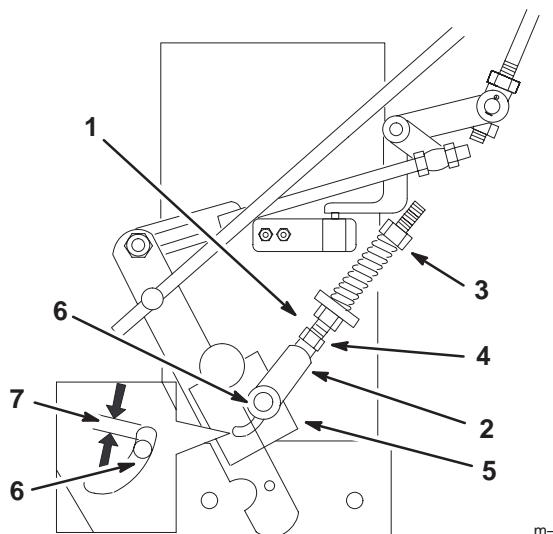

Figure 45
3. Loosen the nut against the yoke (Fig. 45).
4. Adjust the length of the neutral stud and yoke assembly so the clevis pin does not contact the back of the slot in the control arm bracket (Fig. 45).
5. Tighten the nut against the yoke (Fig. 45).
6. If the wheel turns while holding the drive lever in neutral position, the neutral stud needs to be adjusted (Fig. 45). If the wheel does not rotate, then go to step 12.
8. Adjust the adjustment stud until the respective drive wheel stops while holding the drive in neutral position (increase resistance) (Fig. 45).
9. Turn the adjusting bolt approximately 1/4 turn clockwise if the wheel is turning in reverse and turn the bolt approximately 1/4 turn counter-clockwise if the wheel is turning forward (Fig. 45).